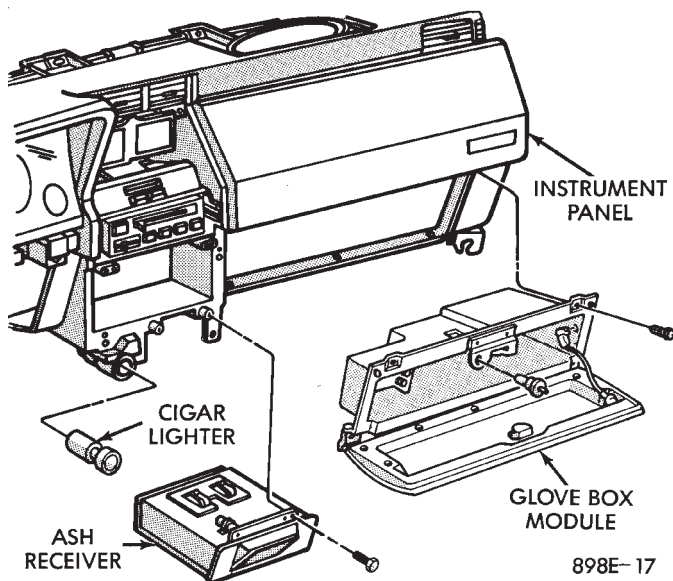

Fig. 24 Glove Box, Ash Receiver and Cigar Lighter
- (1) Open glove box door (Fig. 24).
- (1) Open ash receiver and remove center module bezel.
- (2) Remove ash receiver bracket to instrument panel retaining screws (Fig. 24).
- (3) Pull assembly rearward off of locating pins and disconnect wiring for lamp.
- (4) Remove ash receiver from vehicle.
- (5) For installation reverse above procedures.
- (1) Remove center bezel assembly (Fig. 24).
- (2) Remove center module lower cover or open forward console lid.
- (3) Unscrew lighter receptacle shell from receptacle and remove from base instrument panel.
- (4) Disconnect wiring connectors from lighter receptacle and remove from vehicle.